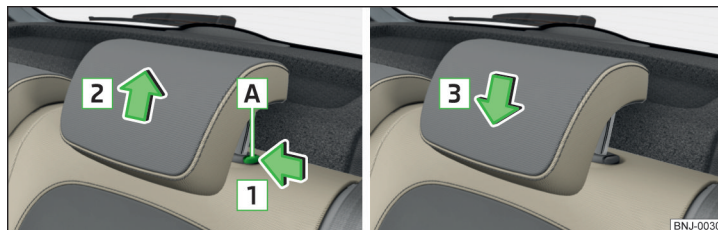

Fig. 62 Headrest: Removing/installing
- Press the locking button **A** in the direction of arrow **1** and pull out the headrest in the direction of arrow **2** » Fig. 62.
- Slide in the support in the direction of arrow **3** until the locking button engages » Fig. 62.